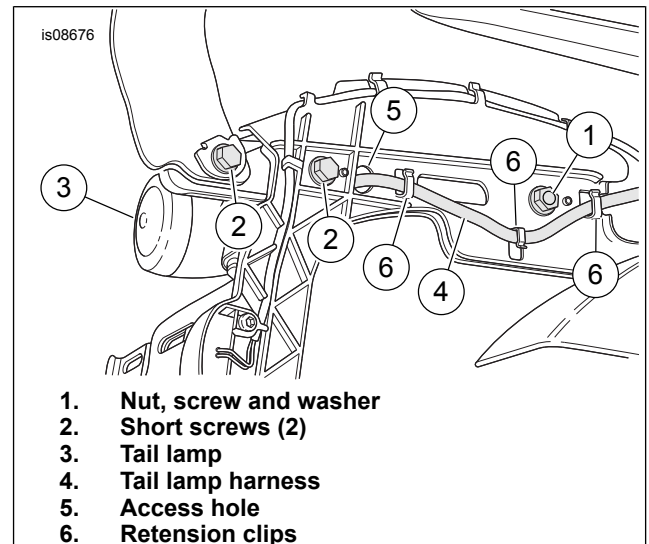

Figure 1. Screws, Harness and Access Hole (view from inside fender)
5. See Figure 1. Remove screws (2) and nut, screw and washer (1).
6. Remove screws (2) and nut, screw and washer (1) from both sides.
8. Slide the sissy bar (4) into place. The keyhole (5) is designed to slide over the tail lamp harness.
9. See Figure 1. Remove any slack in the tail lamp harness (4), if necessary. Verify that tail lamp harness is installed in retention clips (6) as shown.
10. Apply LOCTITE 243 (blue) to the threads of screw. Slide the screws (2) into place. Install nut, screw and washer (1).